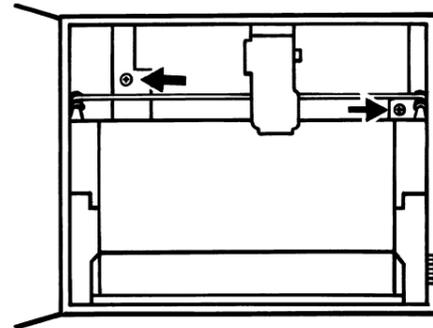

Figure 2 Writing system securing screws
1. Isolate the recorder from mains (line) power. Open the door and slide the printhead / cartridge to approximately the centre of its travel. Release the writing system by undoing the two captive screws arrowed in figure 2.